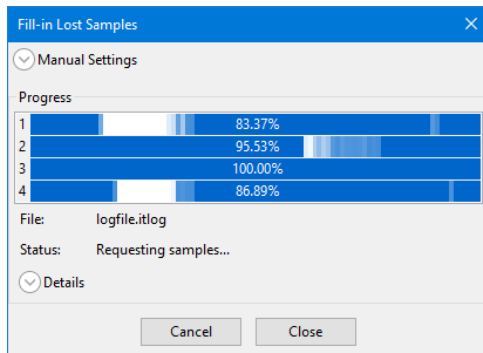

Figure 29: Requesting
Enable *Fill-in Lost Samples* when creating a logfile (see Section 3.3). Once logging is stopped, a pop-up is shown informing that missing data will be filled in. Once continued, the *Fill-in Lost Samples* window is shown (Figure 29) and missing data is automatically filled in.
2. During the second stage, the missing data is requested wirelessly from the nodes (Figure 29). The progress bars are actively being updated to reflect the received data. The lighter segments change to dark-blue.